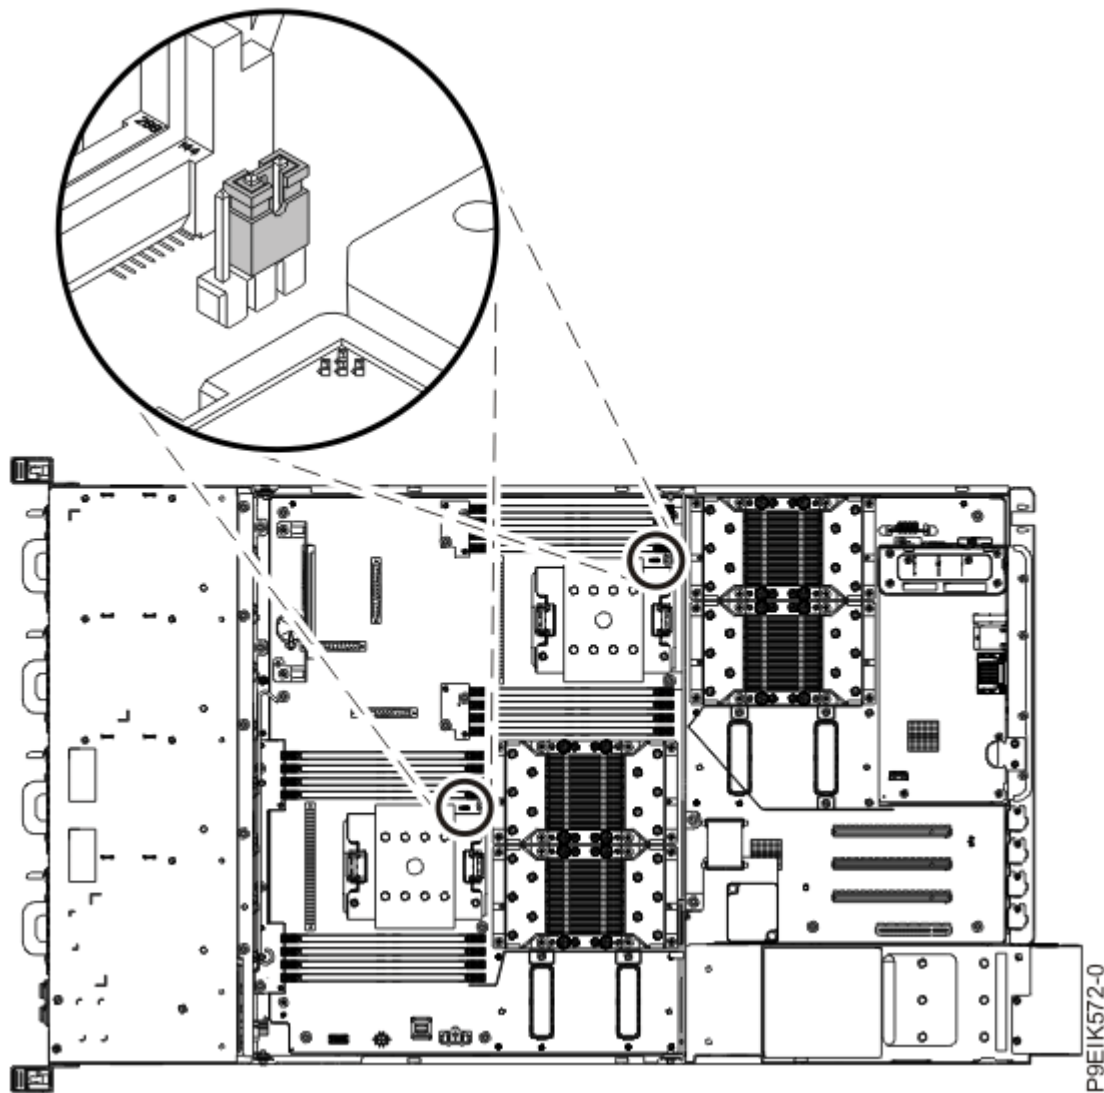

Figure 209. System processor jumper positions
5. Install the system processor jumpers on the system backplane as shown in Figure 209 on page 239.